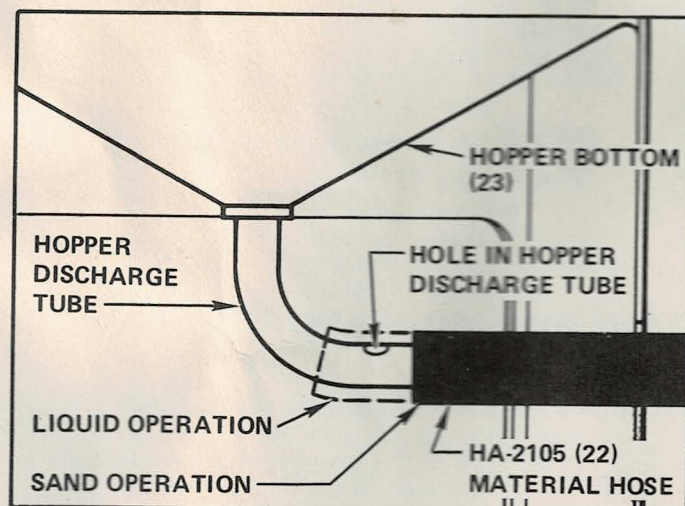

FIGURE 4: Material Hose Connection for sand hopper Model No. 106.168120.
MATERIAL HOSE CONNECTION FOR HOPPER MODELS 106.168120 and 106.168130 — Refer to Figures 4 and 7. To use the hopper model for sandblasting or powdered insecticide operation the material hose (22) should be slipped onto the hopper discharge tube about 5/8 of an inch. The material hose (22) should not cover the 1/4 inch diameter hole located in the hopper discharge tube.